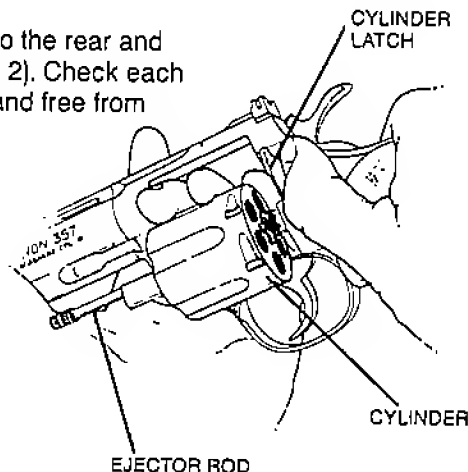

FIGURE 2—OPENING REVOLVER
2. Open revolver by pulling cylinder latch to the rear and pushing cylinder out to the left (See Figure 2). Check each of six chambers to ensure they are clean and free from accumulated oil. (Clean if necessary.)
2. Open revolver by pulling cylinder latch to the rear and pushing the cylinder out to the left of revolver (See Figure 2).
2. Open the cylinder as previously described (See Figure 2).